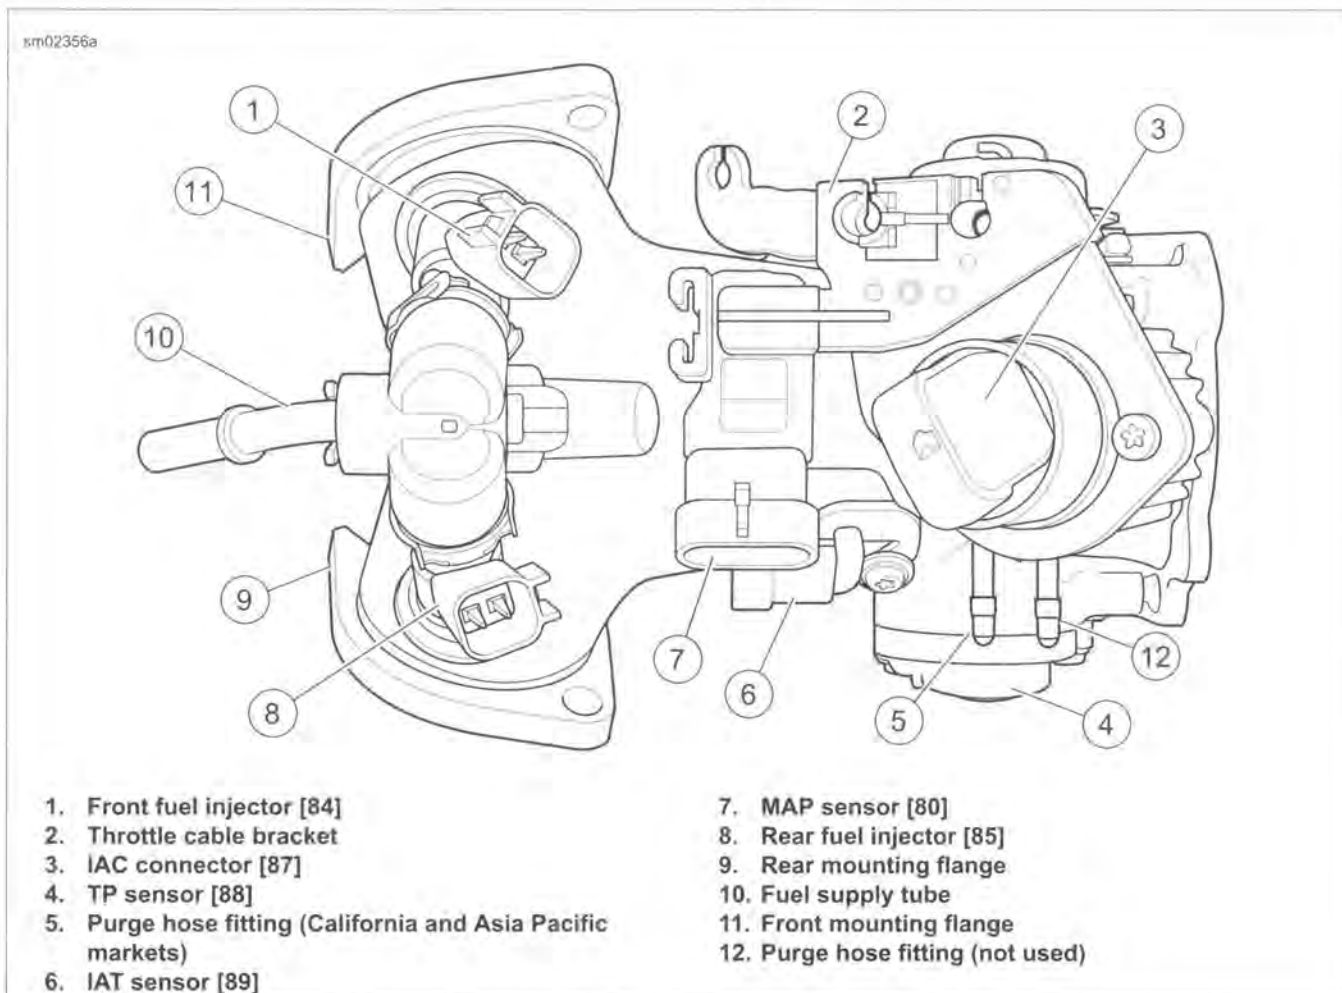
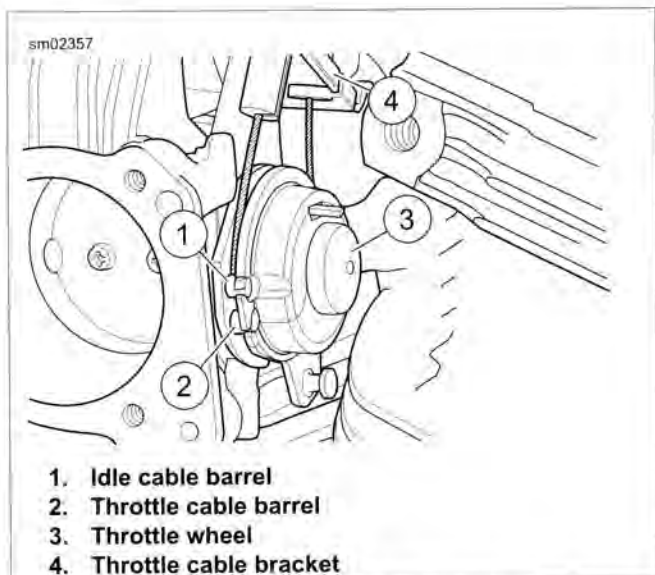

Figure 4-18. Induction Module
Figure 4-19. Throttle/Idle Cables
- See Figure 4-18. Pull purge hose from fitting (5) at top of induction module (California and select models only).
- See Figure 4-19. Pull idle cable barrel (1) from upper hole in throttle wheel. Pull throttle cable barrel (2) from lower hole. Using slots, release idle and throttle cables from guides in throttle cable bracket.
- See Figure 4-18. Remove idle air control connector [87] (3) and manifold absolute pressure sensor connector [80] (7).
- See Figure 4-18. Place a **new** seal in each mounting flange (9, 11) with the beveled side in against the counter-bore.
- See Figure 4-19. Install sleeve on throttle cable housing into cable guide at top of throttle cable bracket (4).
- Drawing throttle cable downward, fit barrel end (2) into lower hole in throttle wheel (3).
- Install sleeve and spring on idle cable housing into cable guide at bottom of throttle cable bracket. Insert barrel end (1) into upper hole in throttle wheel.
- EVAP models:** See Figure 4-18. Attach purge hose to fitting (5) on throttle body.
- Connect front (1) and rear (8) fuel injector connectors. connect IAC (3) connector, MAP sensor (7) connector, TP sensor (4) connector and IAT (6) sensor connector.